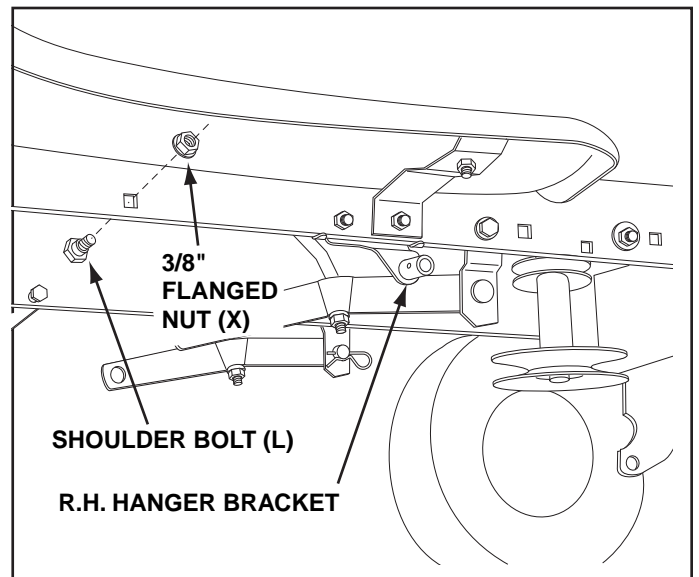

FIGURE 28 RIGHT SIDE VIEW
STEP 28: (SEE FIGURE 28)
- Assemble a shoulder bolt (L) and 3/8" flanged nut (X) to the R.H. side of the tractor frame, using the first empty hole to the rear of the R.H. hanger bracket. Bolt goes on inside of frame.